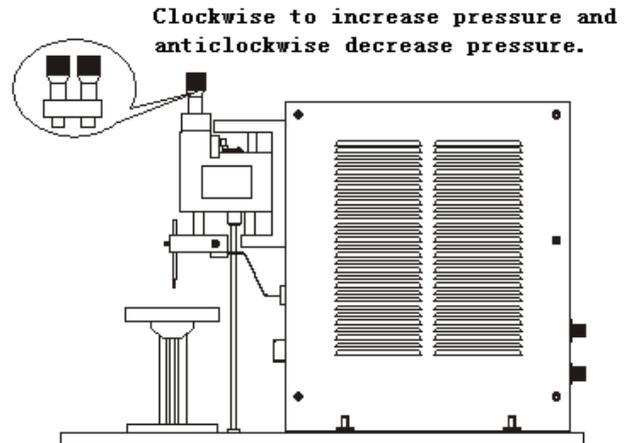

Fig. 4 Welding pressure adjustment
5.3 Adjust welding pressure (Fig.4):